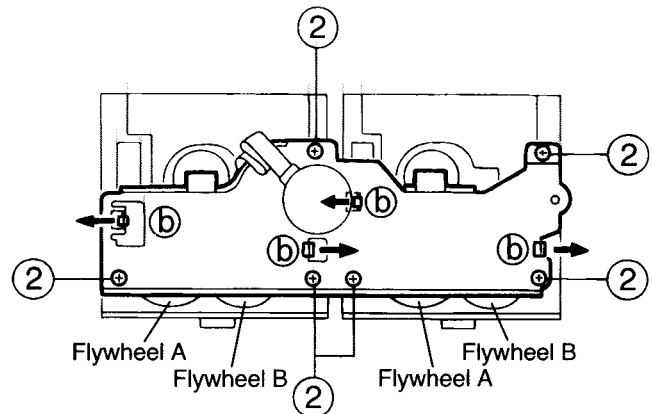

Fig.5
■ Capstan motor removal(See Fig.5~7)
5. Put the cutting on the flywheel A together the bracket's pall as shown in fig.5(Flywheel A)and check that the flywheel B is removed from the bracket's pall(fig.5,6 Flywheel B).
■ Flywheel removal(See Fig.5~7)